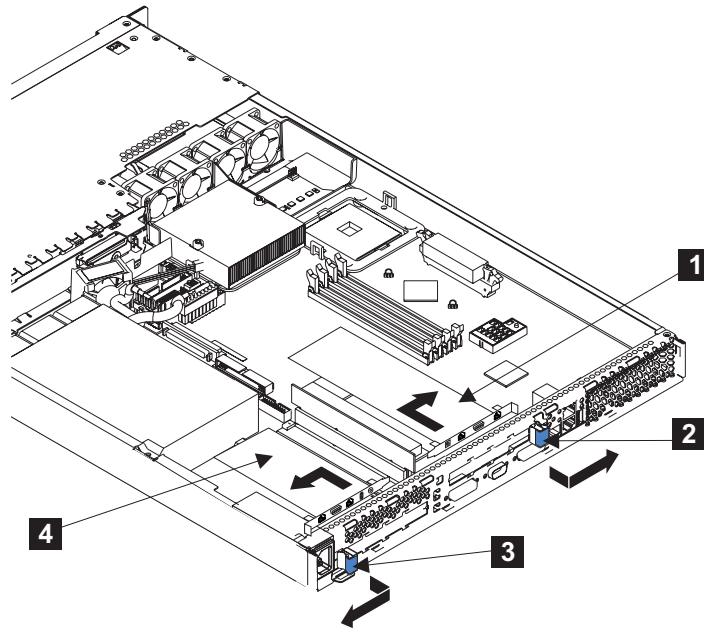

Figure 95. SAN Volume Controller 2145-4F2 before removing an adapter
4. For the adapter that you are going to remove, press the sides of the expansion-slot clip (**2** or **3** in Figure 95 on page 265) together to unlock the clip, and then pivot the expansion-slot clip away from the adapter. The